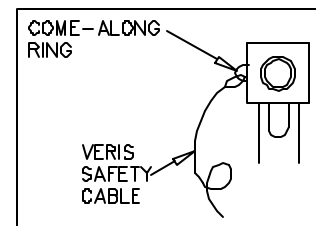

Figure 6. Come-along
- Attach a come-along or similar type device to the come-along ring on the instrument head (Fig. 6).